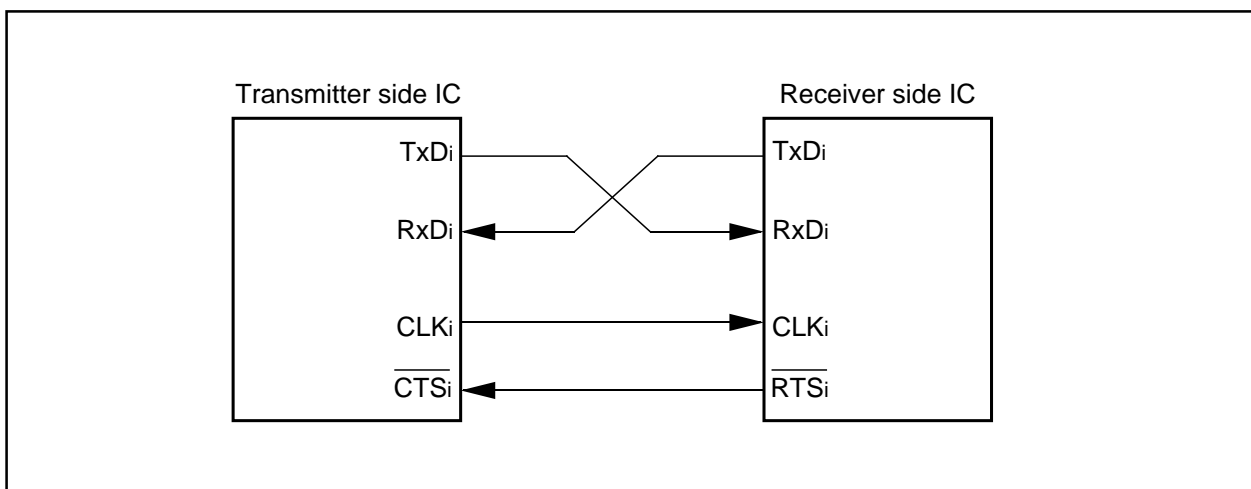

Figure 2.4.16. Example of wiring
- (1) With an external clock selected, and choosing the $\overline{\text{RTS}}$ function, the output level of the $\overline{\text{RTSi}}$ pin goes to “L” when the data-receivable status becomes ready, which informs the transmission side that the reception has become ready. The output level of the $\overline{\text{RTSi}}$ pin goes to “H” when reception starts. So if the $\overline{\text{RTSi}}$ pin is connected to the $\overline{\text{CTS}}$ pin on the transmission side, the circuit can transmission and reception data with consistent timing. With the internal clock, the $\overline{\text{RTS}}$ function has no effect. Figure 2.4.16 shows an example of wiring.